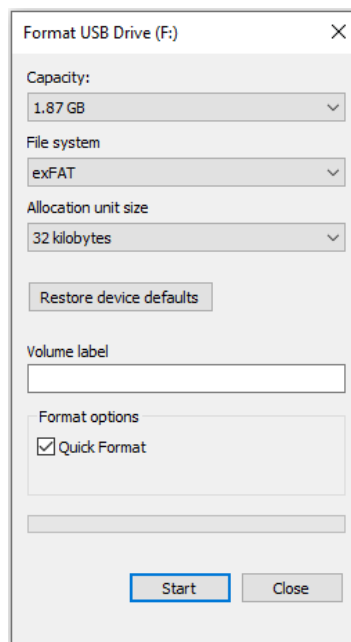

Figure 13
5. In the File System dropdown, select exFAT (see Figure 13).